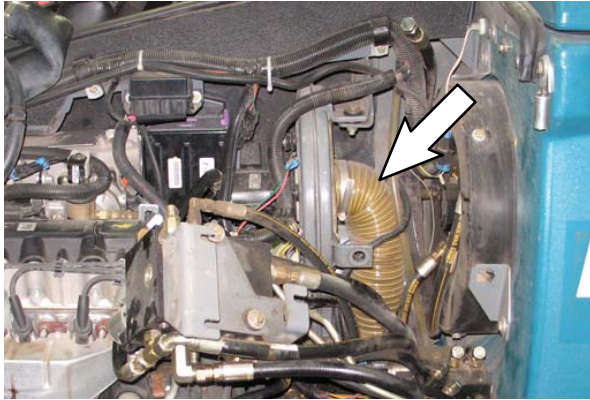

FIG. 15
22. Reconnect the intake hose to the sweep fan. (Fig. 15)